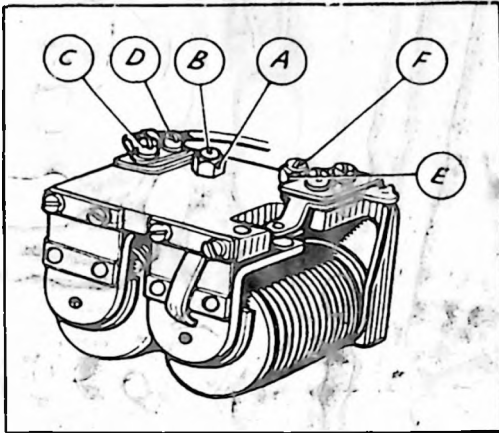

Fig. 4. Cut-out and Regulator Assembly.
- (3) **Cleaning Contacts.** After long periods of service it may be found necessary to clean the vibrating contacts of the regulator. These are made accessible by slackening the screws securing the plate carrying the fixed contact. It will be necessary to slacken the upper screw (C), Fig. 4, page V5, a little more than the lower (D) so that the contact plate can be swung outwards. Clean the contacts by means of fine carborundum stone or fine emery cloth. Carefully wipe away all traces of dirt or other foreign matter. Finally tighten the securing screws.